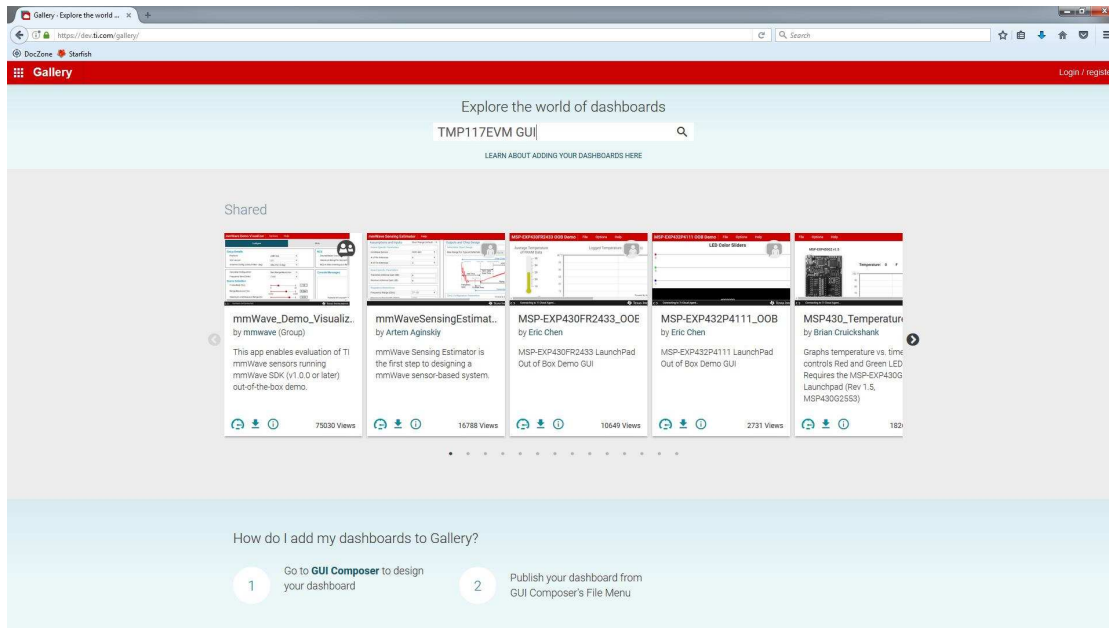

Figure 4. Gallery Home Page
- On the top middle of the gallery main page, navigating to search box and type *TMP117EVM GUI* as shown in the Figure 4.